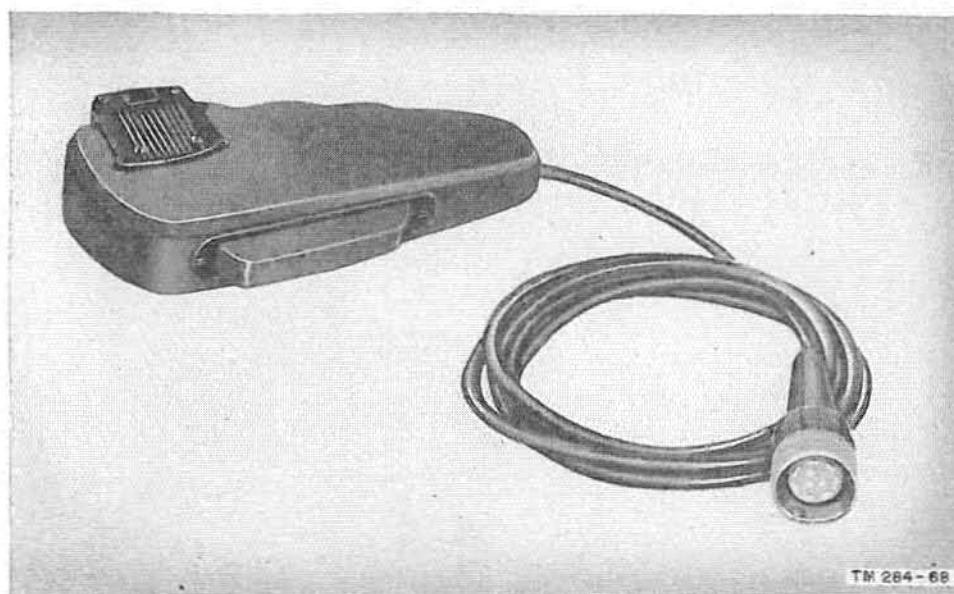

Figure 17. Microphone M-29/U.
f. MICROPHONE M-29/U. Microphone M-29/U (fig. 17) consists of a 300-ohm carbon-microphone element in a plastic case with a push-to-talk switch and connecting cord attached. The push-to-talk switch incorporates two electrically independent SPST switches. The connecting cord is 5 feet long and terminates in a 10-pin audio connector which will mate with the connectors on the receiver-transmitters, the interphone amplifier, and the control units.